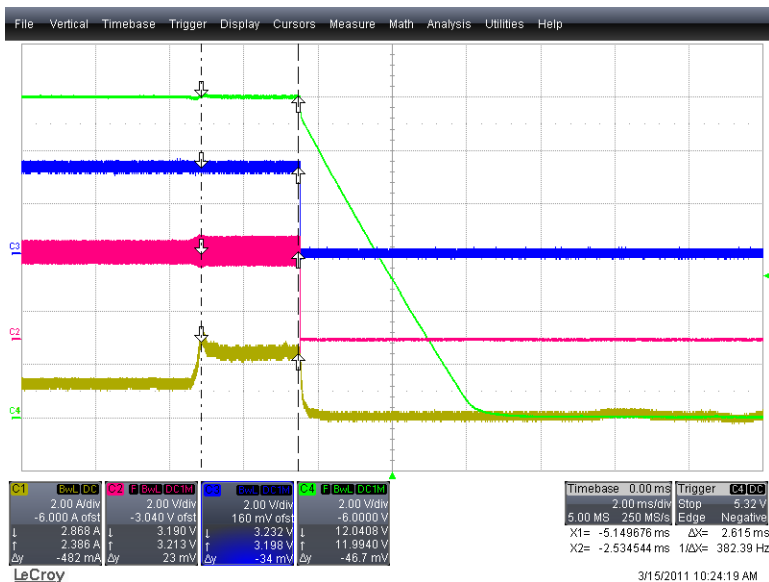

Figure 23 - Accurate CS1 OCP, 2.5ms debounce time
- A. **CS1 Accurate and Fast OCP:** Figure 23 shows the CS1 accurate OCP flag and a re-enable after 1 second.